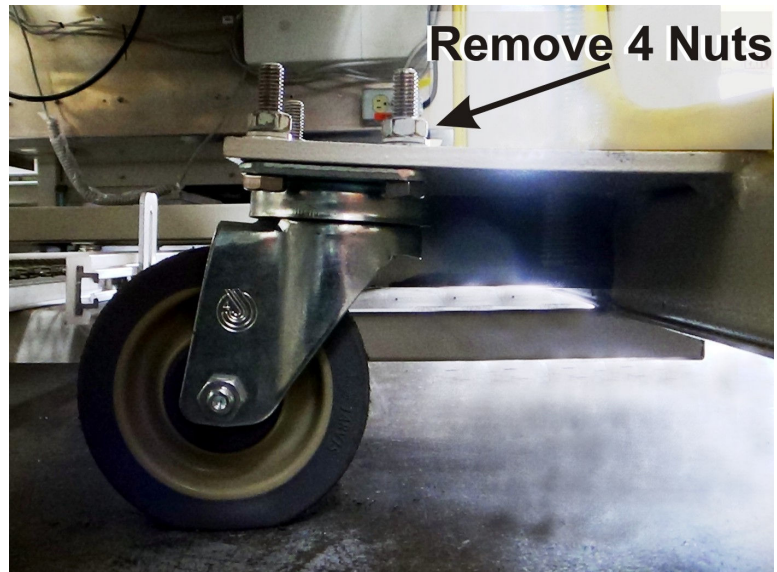

Figure 2-9 Castor bolts
- B. Use open end wrench and socket wrench to remove nuts and bolts holding castors in place, Figure 2-9. Remove all castors. Store inside furnace for later use.